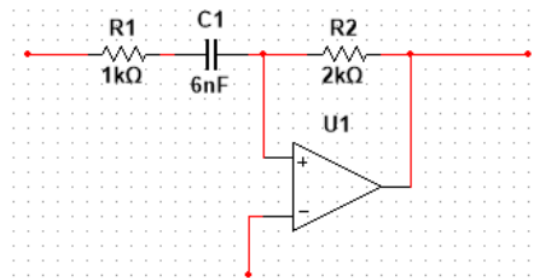

Figure 50 Frequency Performance First Order Electronic System for Task 10
11.1: Analyse the system shown in figure 50 for a Butterworth filter with $k = 1.586$. Using a Matlab model approach, produce a frequency response of the gain over a range of frequencies.